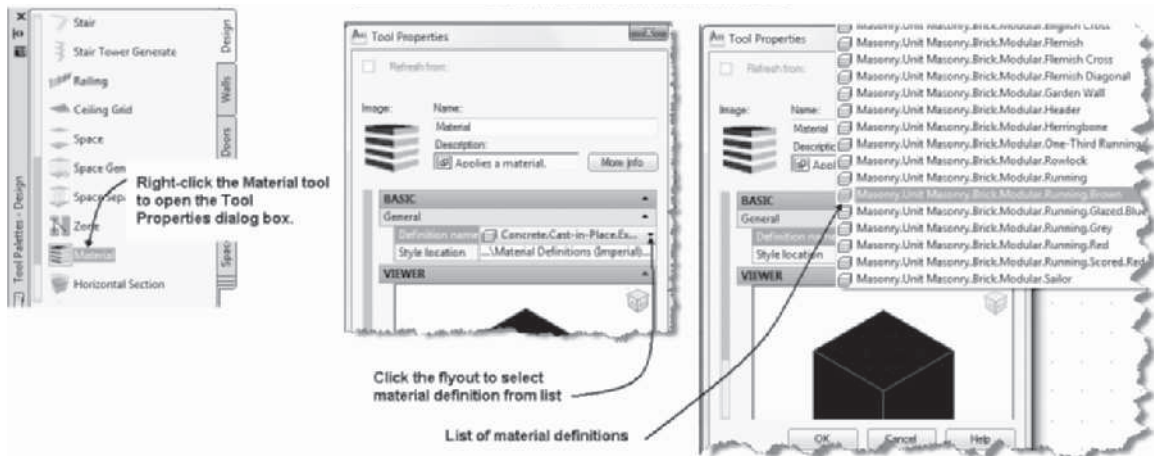

FIGURE 3.38 Assigning materials to a wall component
40. Right-click the **Material** tool from the **Design** tool palette and choose properties, as shown in Figure 3.38. Choose the **Masonry.Unit** **Masonry.Brick.Modular.Running.Brown** material definition as shown in Figure 3.38. Choose **OK** to dismiss the Tool Properties dialog box.